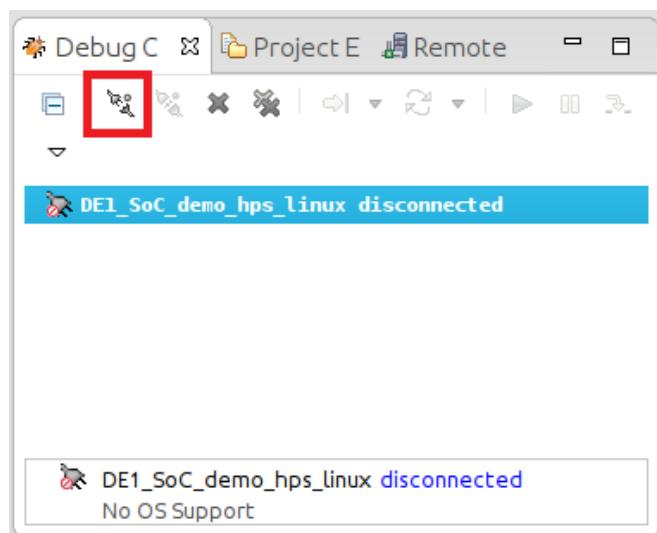

Figure 13-27. Debug Control View
77. In the "Debug Control" view, click on the "DE1_SoC_demo_hps_linux" entry, then click on the "Connect to Target" button, as shown on Figure 13-27. The debugger will start an SSH connection to the linux distribution running on the DE1-SoC and will automatically transfer our binary file and wait at our application's "main()" function.